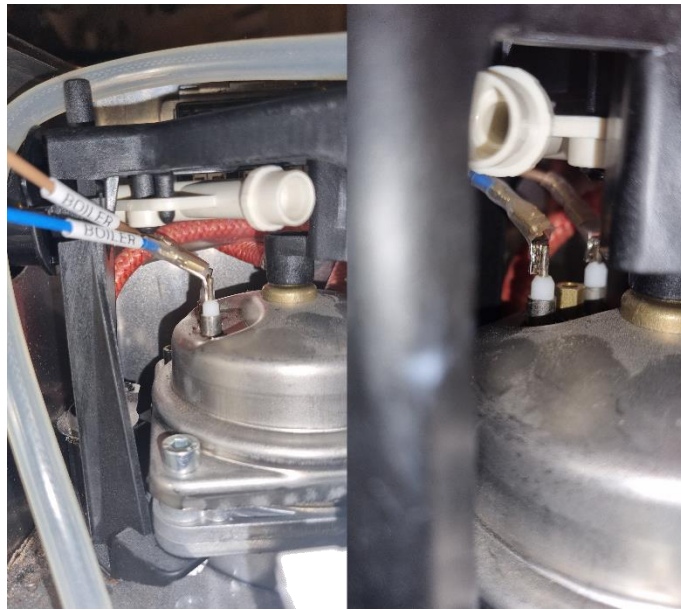

Fig. 7.5
- Connect the brown and blue wire boiler plugs. Access is difficult. Make sure the plugs are well inserted and not lose (fig.7.5)